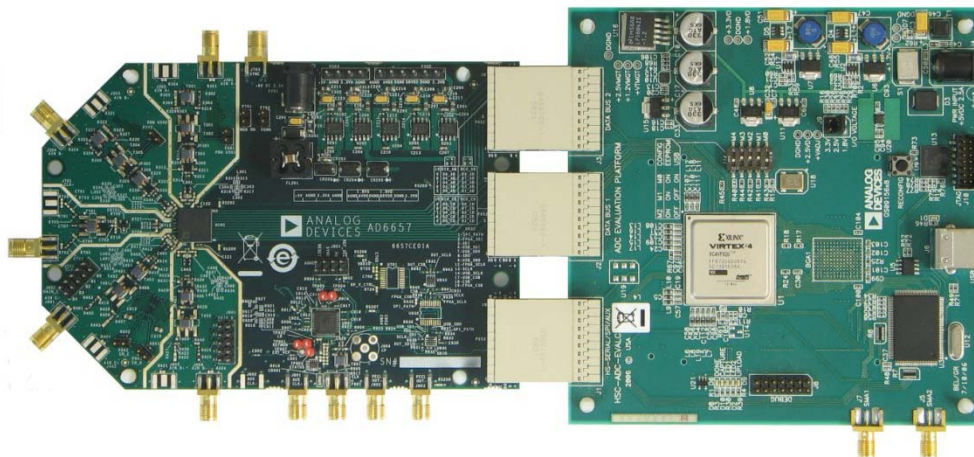
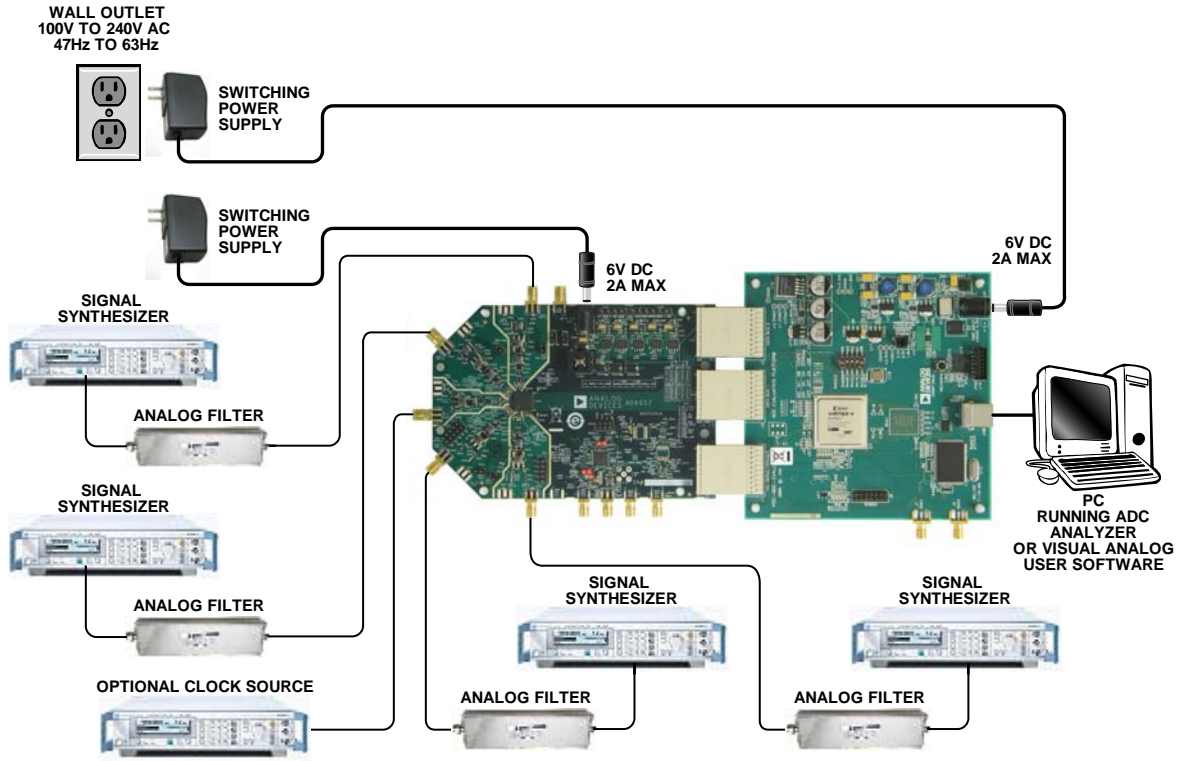

Figure 1. AD6642 and AD6657 Evaluation Board and HSC-ADC-EVALCZ Data Capture Board
Figure 2. Evaluation Board Connection
The AD6642 and AD6657 evaluation board provides all of the support circuitry required to operate these parts in their various modes and configurations. Figure 2 shows the typical bench characterization setup used to evaluate the ac performance of the AD6642 or AD6657. It is critical that the signal sources used for the analog input and clock have very low phase noise (<1 ps rms jitter) to realize the optimum performance of the signal chain. Proper filtering of the analog input signal to remove harmonics and lower the integrated or broadband noise at the input is necessary to achieve the specified noise performance.
1. Connect the evaluation board to the data capture board, as shown in Figure 1 and Figure 2.